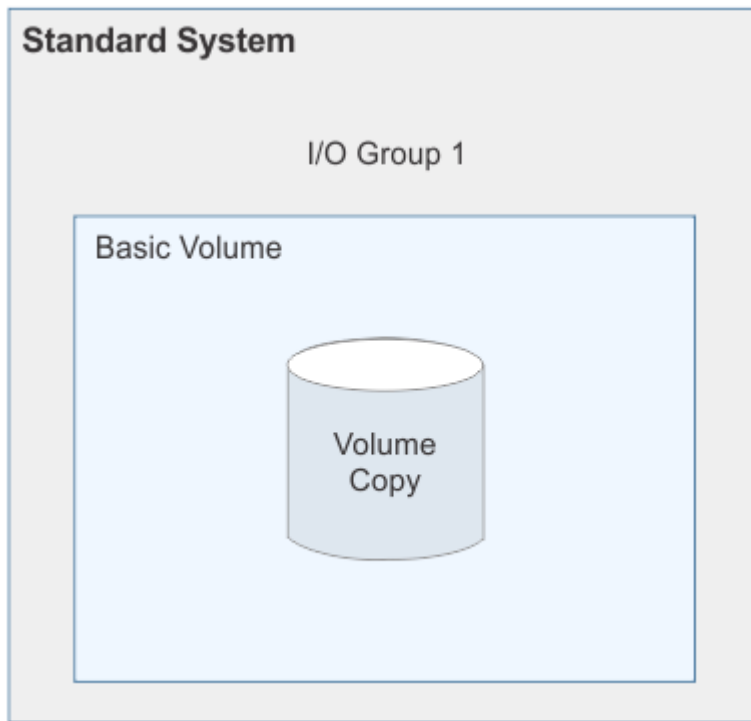

Figure 5. Example of a basic volume
- *Basic volumes*, where a single copy of the volume is cached in one I/O group. Basic volumes can be established in any system topology; however, Figure 5 on page 5 shows a standard system topology.